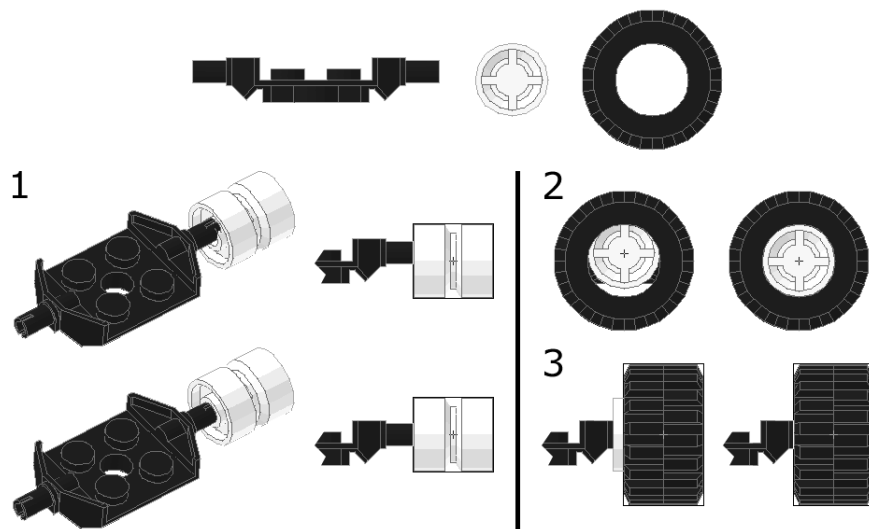

Figure 5-12: Aligning wheels and tires using Fine Grid and multiple views.
3. Move the wheel into place over the axle. Note that in some views, the two do not appear to line up when using the Coarse Grid setting. Set your grid to **Fine**, and use the keyboard to move the tire into place. (See Figure 5-12 on the following page.)